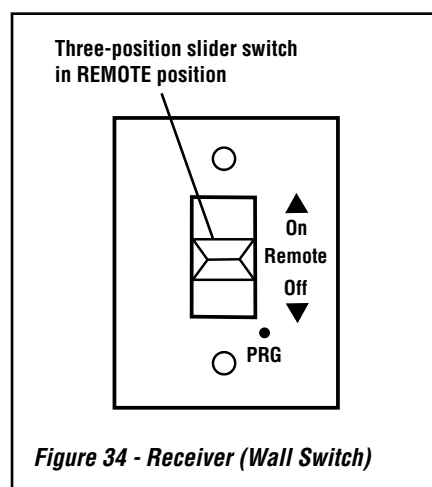

Figure 34 - Receiver (Wall Switch)
4. Insert the three (3) provided AAA batteries into the battery bay in the transmitter, taking care to correctly align polarity (+/-).
5. Insert the four (4) provided AA batteries into the receiver battery bay (behind the wall switch plate), taking care to correctly align polarity (+/-).
6. On the receiver, place the three-position slider switch in the REMOTE position (*Figure 34*).